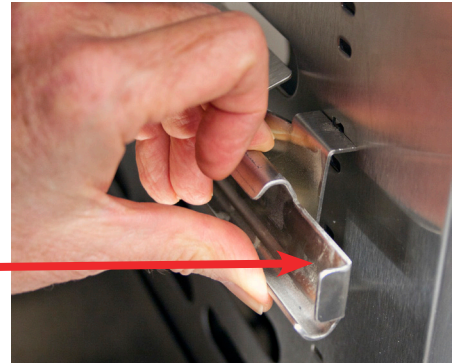

Fig. 22: Inserting Bottom Channel Tab
2. After inserting the top tab, push up slightly on it while snapping in the bottom tab into a slot located three slots below the top slot (Fig. 22).